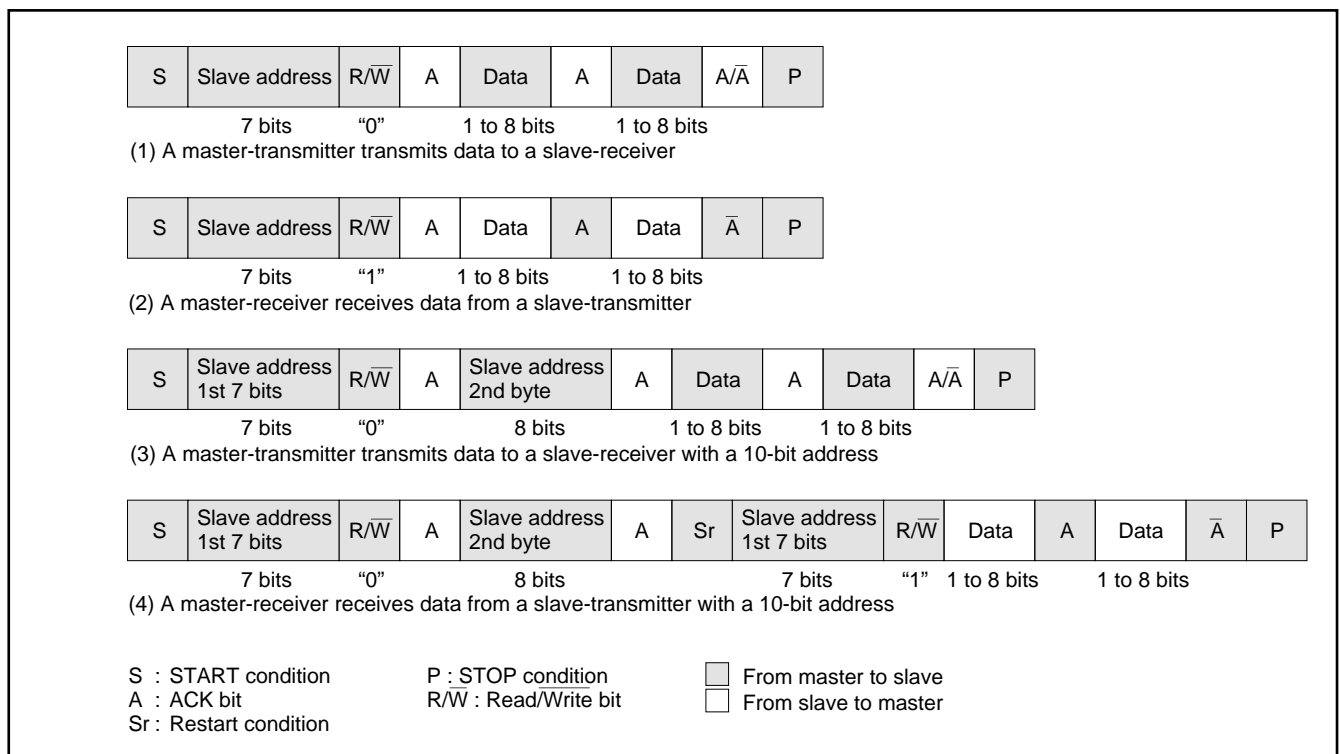

Fig. 24. Address data communication format
① 7-bit addressing format
To meet the 7-bit addressing format, set the 10BIT SAD bit of the I²C control register (address 00DA16) to "0." The first 7-bit address data transmitted from the master is compared with the high-order 7-bit slave address stored in the I²C address register (address 00D816). At the time of this comparison, address comparison of the RBW bit of the I²C address register (address 00D816) is not made. For the data transmission format when the 7-bit addressing format is selected, refer to Figure 24, (1) and (2).
② 10-bit addressing format
When the first-byte address data matches the slave address, the AAS bit of the I²C status register (address 00D9₁₆) is set to "1." After the second-byte address data is stored into the I²C data shift register (address 00D7₁₆), make an address comparison between the second-byte data and the slave address by software. When the address data of the 2nd byte matches the slave address, set the RBW bit of the I²C address register (address 00D8₁₆) to "1" by software. This processing can match the 7-bit slave address and R/W data, which are received after a RESTART condition is detected, with the value of the I²C address register (address 00D8₁₆). For the data transmission format when the 10-bit addressing format is selected, refer to Figure 24, (3) and (4).
(10) Example of Master Transmission